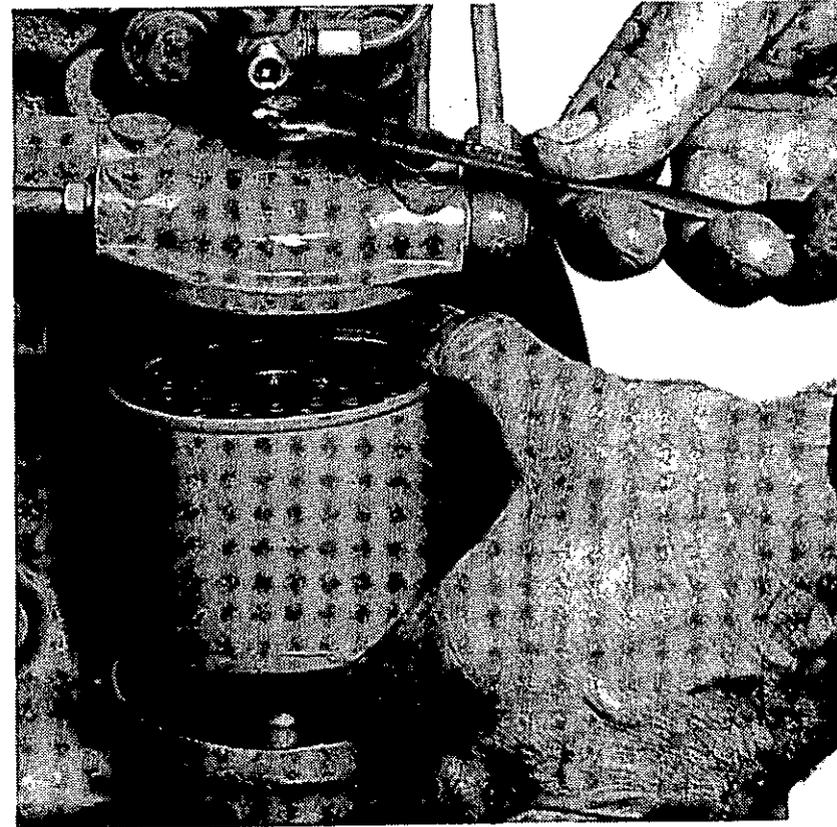

Fig. 11 To renew a fuel filter element
- 2 Release the setscrew in the centre of the cover of the filter (see fig. 11).